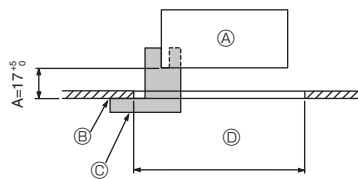
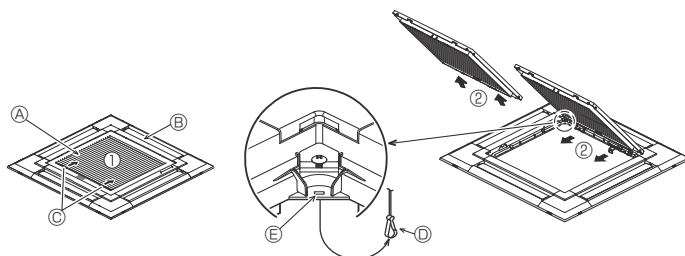
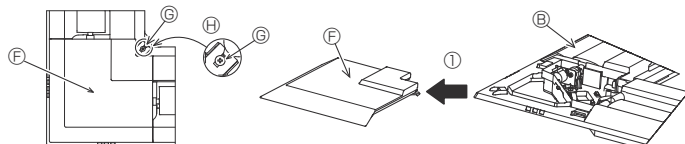

Fig. 9-2
Fig. 9-3
Fig. 9-4
①	Grille	1	950 × 950 (mm)
②	Installation gauge	1	(Divided into 4 parts)
③	Screw (4 × 16)	1	For PLP-6EAE, PLP-6EALME, PLP-6EALME
④	i-see Sensor corner panel	1	For PLP-6EAE, PLP-6EALME, PLP-6EALME
⑤	Wireless remote controller	1	For PLP-6EALM, PLP-6EALME
⑥	Remote controller holder	1	Included when equipped with the wireless remote controller.
⑦	LR6 AA batteries	2	Included when equipped with the wireless remote controller.
⑧	3.5 × 16 tapping screws	2	Included when equipped with the wireless remote controller.
9.2. Preparing to attach the grille (Fig. 9-2)
- With the gauge ② supplied with this kit, adjust and check the positioning of the main unit relative to the ceiling surface. If the main unit is not properly positioned relative to the ceiling surface, it may allow air leaks or cause condensation to collect.
- Ⓒ Installation gauge ② (inserted into the main unit)
9.2.1. Removing the intake grille (Fig. 9-3)
- Slide the levers in the direction indicated by the arrows ① to open the intake grille.
- With the intake grille in the "open" position, remove the hinge of the intake grille from the grille as indicated by the arrows ②.
9.2.2. Removing the corner panel (Fig. 9-4)
- Loose the 4 screws on the corner. Slide the corner panel in the direction of the arrow ① in the figure and remove the corner panel.
[Fig. 9-3] [Fig. 9-4]